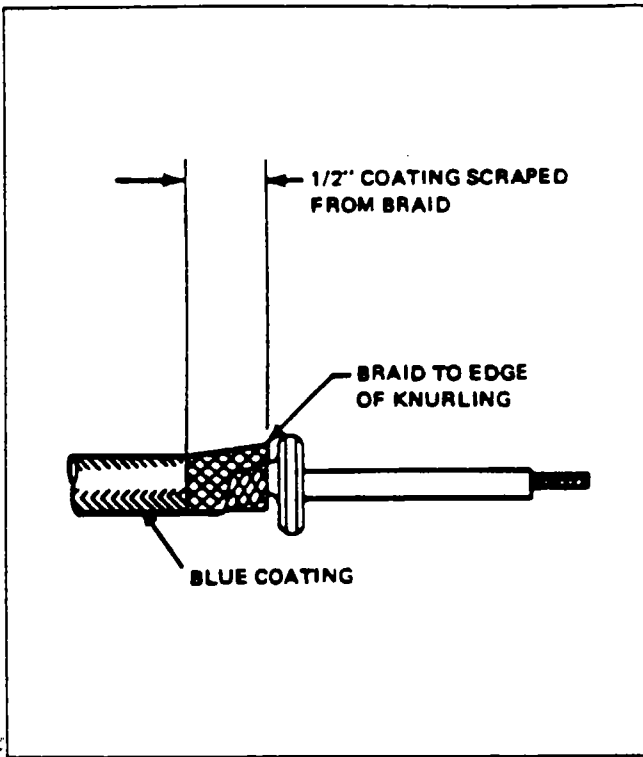

Figure 74-17. Ferrule Positioned Under Braid
- F. Push back braid and thread a new ferrule over wire and under braid until braid just covers knurling. (Refer to Figure 74-17.)